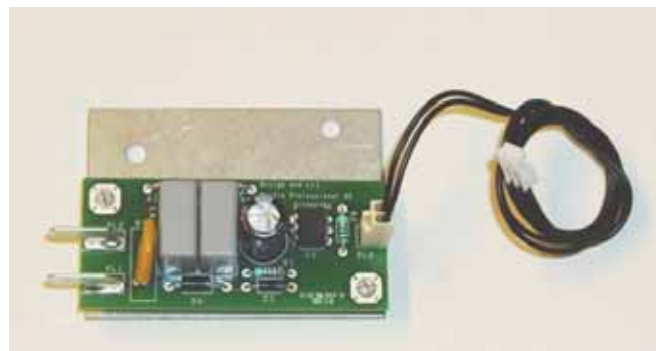

Figure 21
23. See Figure 21. An opto-switch for the remote lamp on/off circuit is supplied with the Upgrade Kit (see “J” in Table 1).